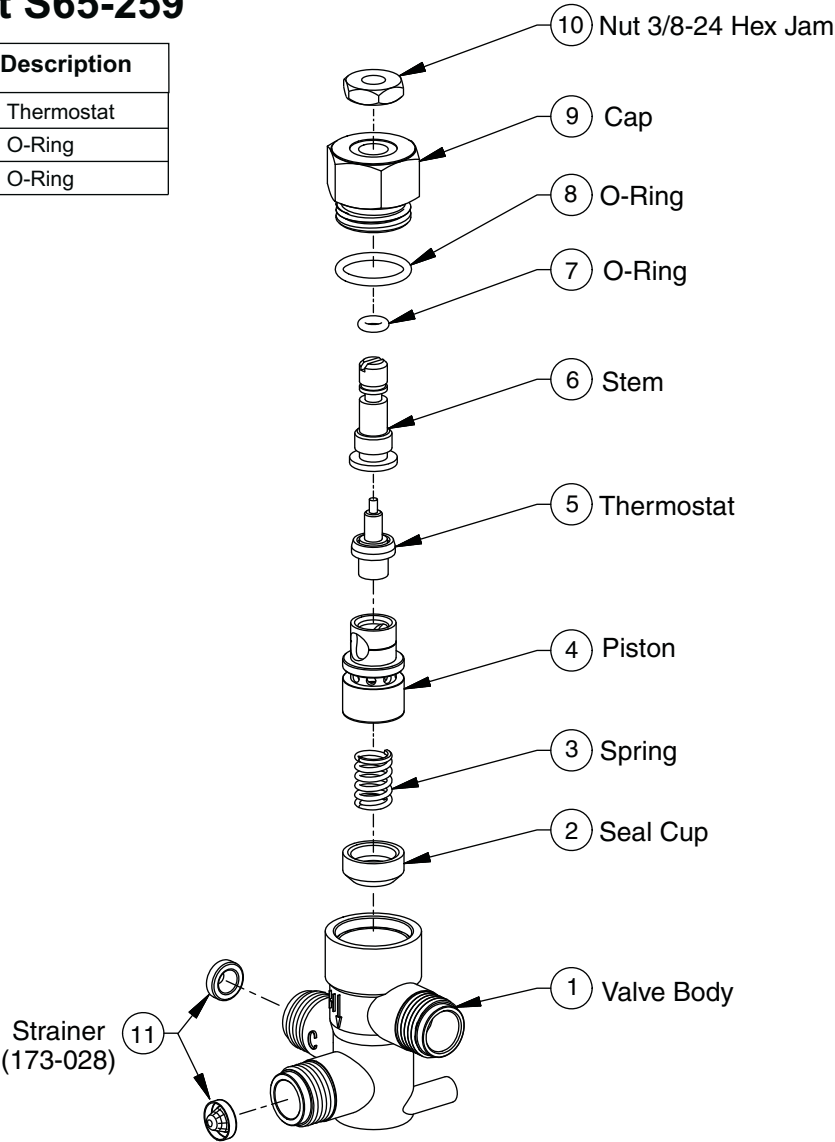

Figure 12
1. Remove and clean strainer (see Figure 12 or 13 on page 24). If strainer needs to be replaced, order Bradley part no. 173-028.
1. Remove the valve's cap and thermostat (see Figure 12 on Page 24).